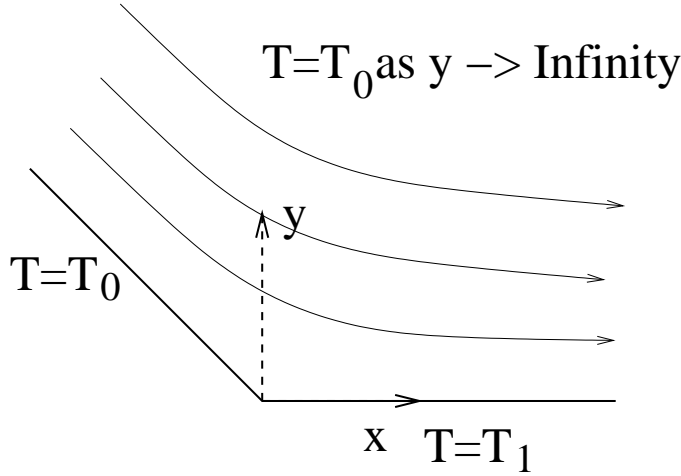

Figure 15: Heat transfer in flow around a corner.
1. Consider the heat transfer in the flow past a corner, shown in figure 15. The temperature in the fluid is  $T_0$  for  $x \leq 0$ , and there is a heated section with temperature  $T_1$  for  $x \geq 0$ . The fluid far from the surface is at temperature  $T_0$ . Adjacent to the heated section, the velocity profile in the fluid close to the surface is given by,  $u_x = kx^{1/2}$ ,  $u_y = 0$ .